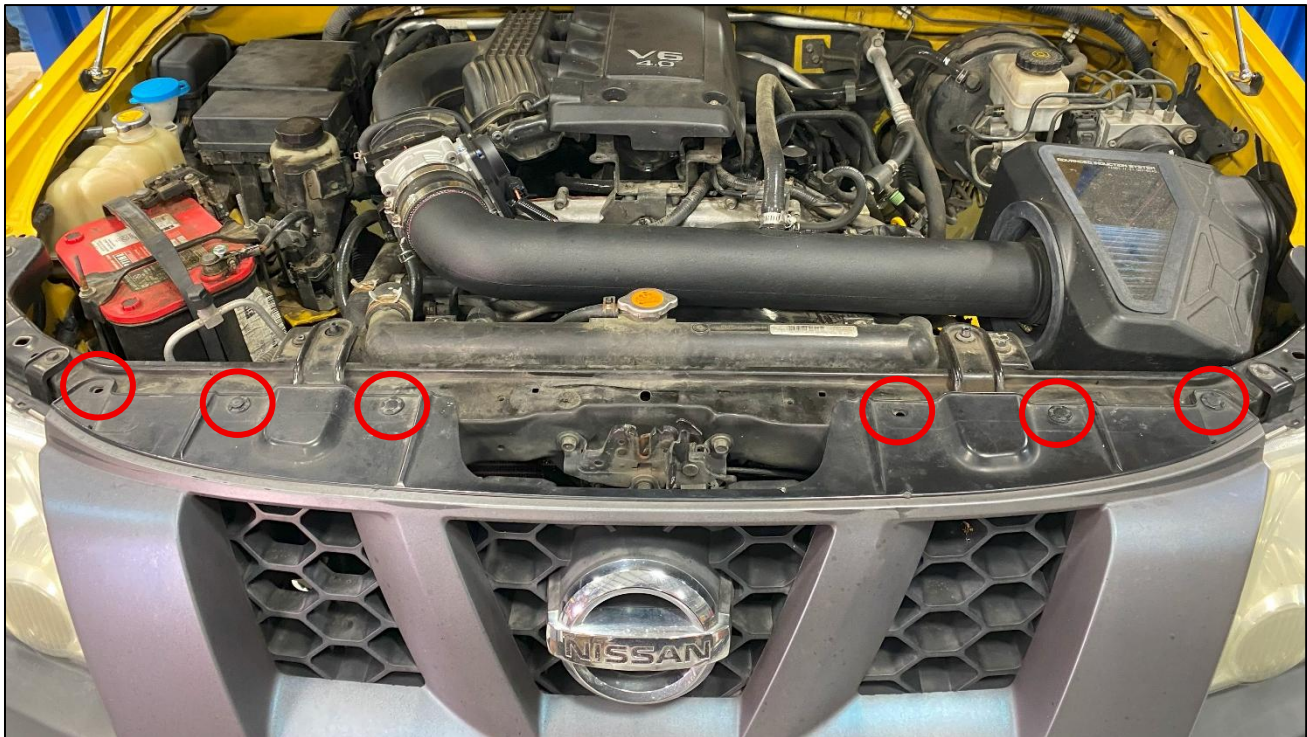

Figure 3
8. Remove the (6) six plastic clips securing the Front Grille to the vehicle. *Figure 3.*